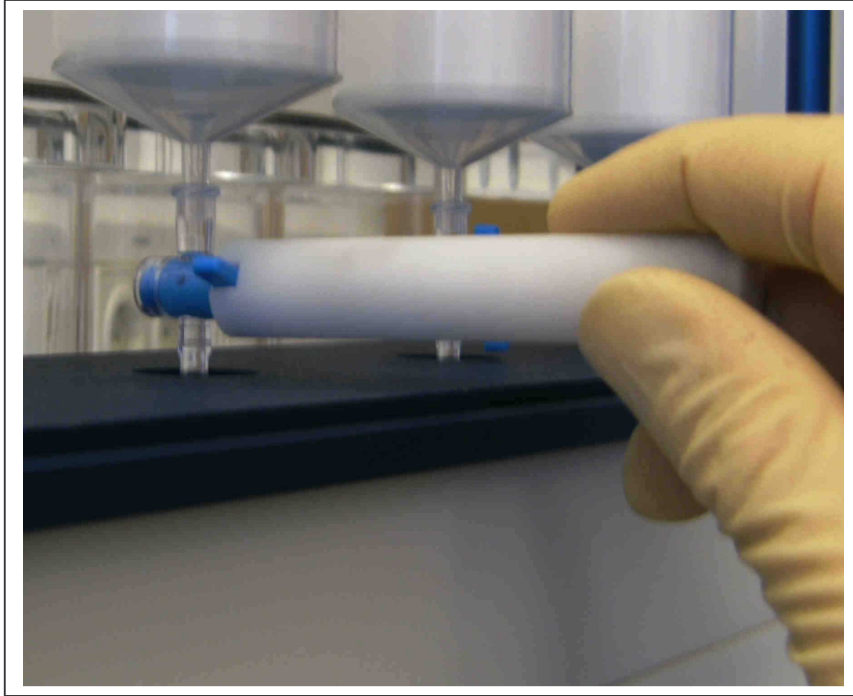

Figure 7
5. Prepare the Extender unit with QIAconcentrator (see figure 7, page 12) by plugging together and connect the outlet of the QIAconcentrator with the Inlet of the connection adapter (blue valve).
The Vacuum Regulator measures the pressure difference between the inside and outside of a vacuum system in millibars\* (Figure 7). Use of the Vacuum Regulator makes it easy to monitor the pressure generated by the vacuum source, ensuring that it is sufficient for the appropriate QIAGEN purification chemistry.